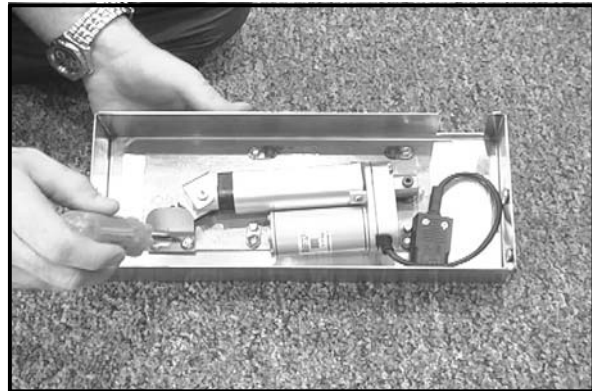

Figure 7
6. Remove the actuator tab bracket holding the actuator arm. See Figure 7.